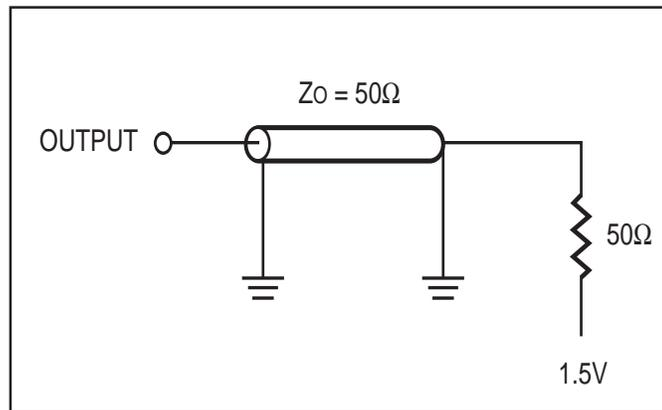

Figure 1
Output Load	See Figures 1 and 2
3. Tested with load in Figure 1.
1. Tested with load in Figure 1.